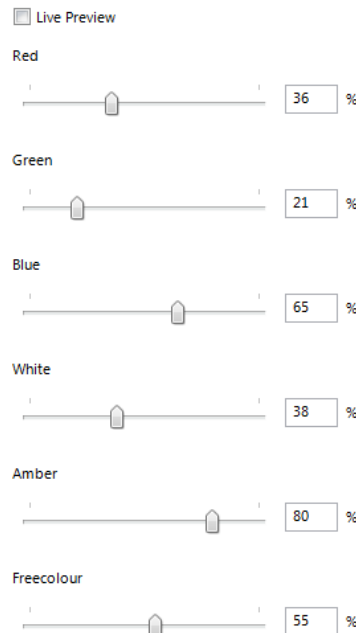

Figure 209: Selecting a colour for colour type RGBWAF.
- **RGBWAF** (see Figure 209): For this type the resulting colour is composed by selecting a percentage value of 0% to 100% for the intensity of up to six predefined channels (red, green, blue, white, amber and free colour). Note, that a specific ballasts supporting RGBWAF might only support a subset of those six channels (e.g. only red, green, blue).